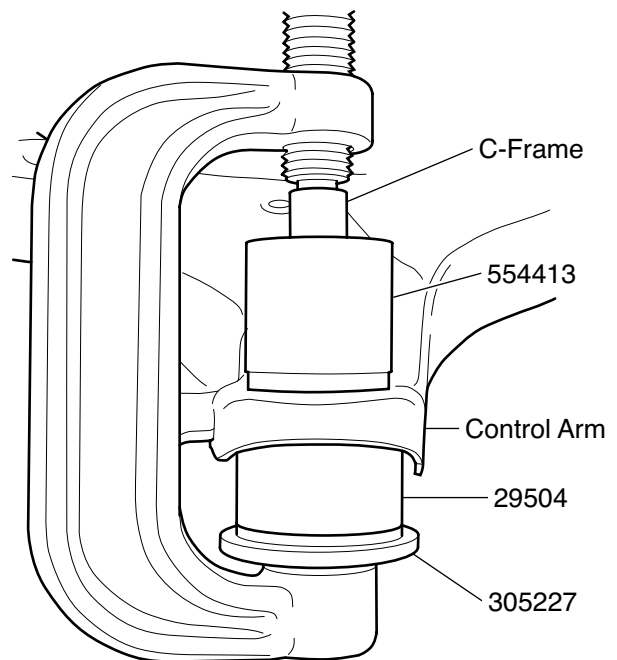

Figure 2. Ball Joint Installation
3. Position 554413 on the ball joint as shown in Figure 2.